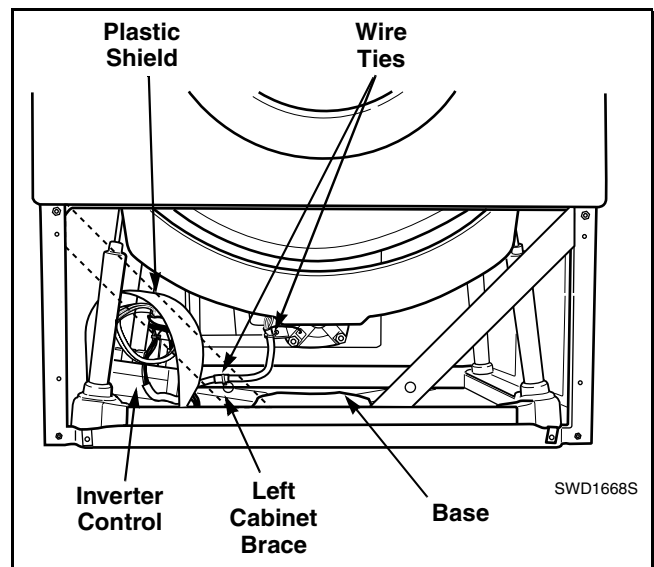

Figure 9
- c. Remove screws holding left cabinet brace to washer and remove brace. Refer to *Figure 9*.
- g. Remove screws holding inverter control to base of washer. Refer to *Figure 9*.
- i. Position the new inverter control on base of washer as shown in *Figure 9*. Reinstall screws (removed in Step “f”) and tighten firmly.
- k. Secure wires to base and motor using new wire ties. Refer to *Figure 9*.